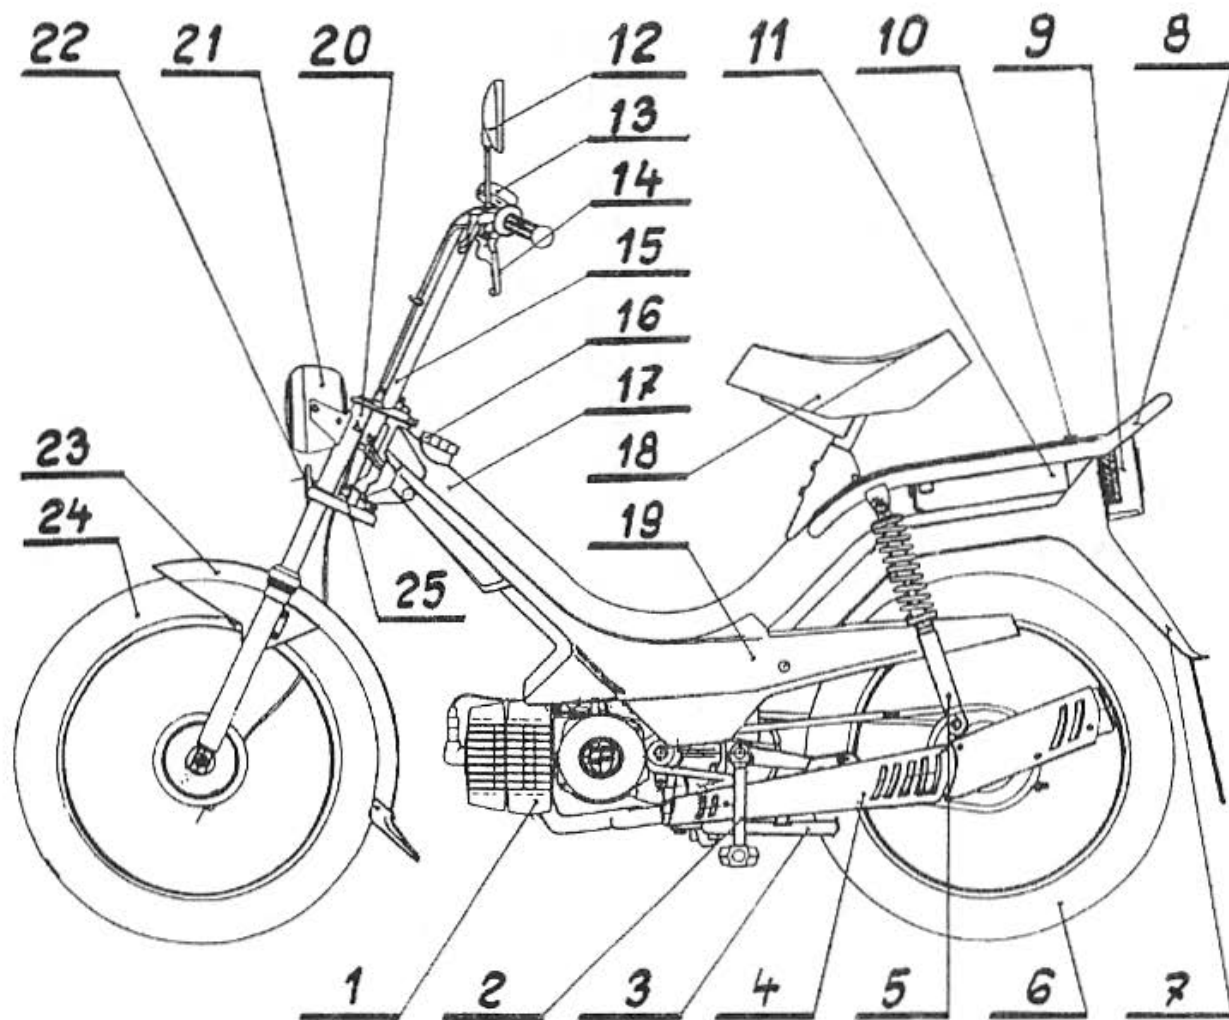

Fig. 1 KORADO Moped - main parts
-Control the serial number if it coincides with the documentation- the serial number is located on the upper part of the frame and is readable from the right side of the motor. The motor number need not be identical with the number of the chassis. Get acquainted with the main parts and control elements before your first drive (fig. 1).
The lock is on the left side below the handlebars (25 fig. 1)
The filler cap (16 fig. 1) is on the front part of the frame and the air-release valve (10 fig. 1) on the rear part of the frame.